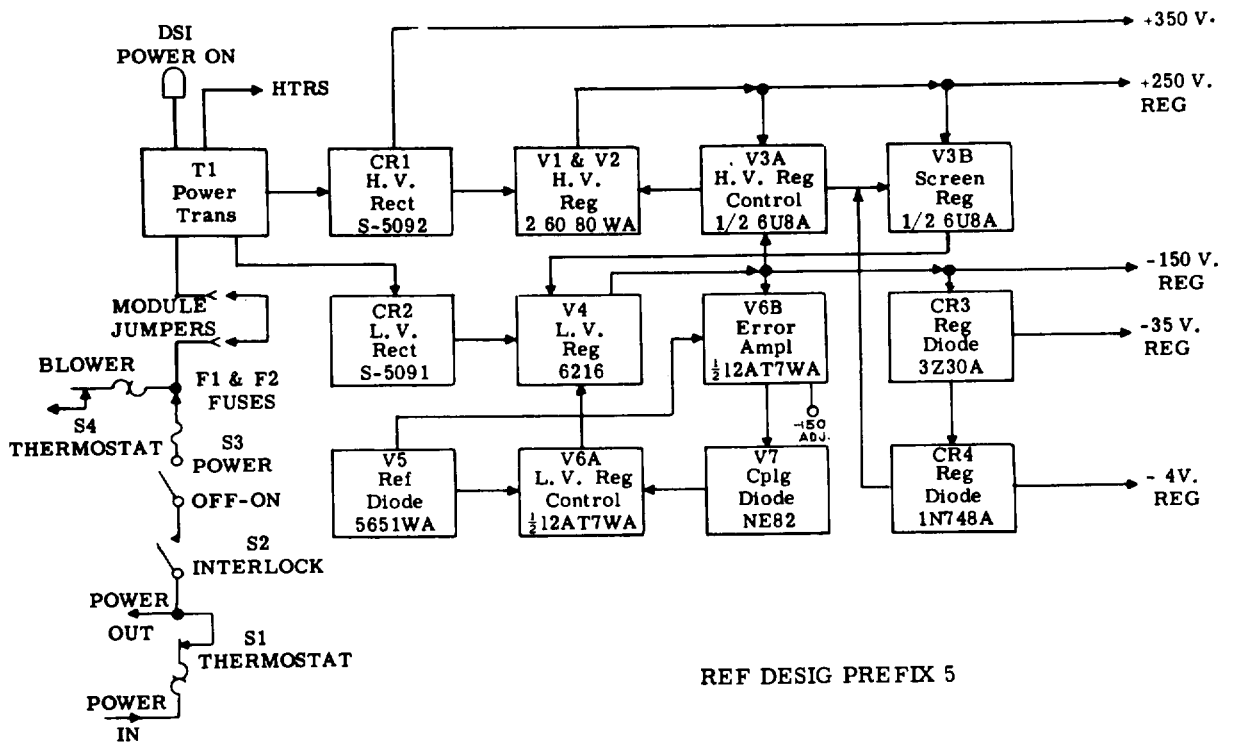

Figure 4-89. TS-1253A/UP Panel-Chassis Assembly, Block Diagram
(5) TS-1253A PANEL-CHASSIS ASSEMBLY. - The circuit functions of the panel-chassis assembly are shown in the block diagram in figure 4-89 and are described below. Voltage readings are given in table 4-17 and resistance readings in table 4-18. Further details on power distribution in the assembly may be found in figure 5-59.
ANALYSIS. - The test set is designed to operate on 115-volt, 45 to 420 Hz power. Power is connected into the test set at connector 5J1 located in the TS-1253A panel-chassis assembly. Figure 4-89 is a block diagram of the panel-chassis assembly, showing the routing of ac power to power transformer 5T1. Thermostat 5S1 is provided to open the input power circuit when the case temperature rises above 74°C (166°F). Thermostat 5S4 opens the blower circuit when the temperature drops below -29°C (-20 F). Interlock 5S2 opens the power transformer primary circuit when the equipment is removed from the cabinet. This interlock has a lock pin which can be set to hold the interlock closed when the equipment is being serviced out of the case. Fuses